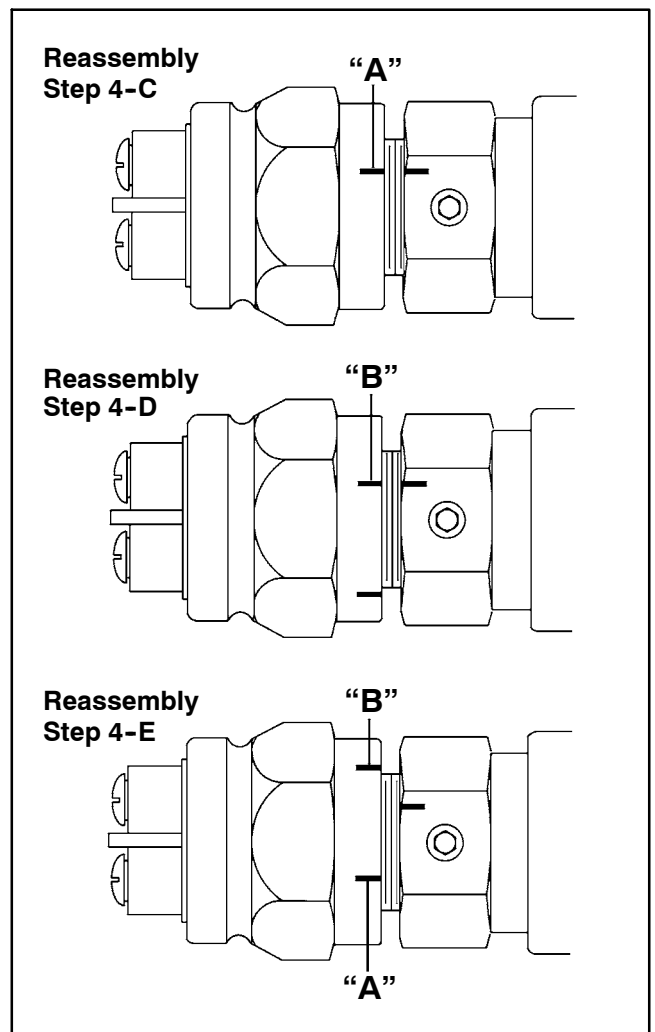

Figure 48
1. Install new o-ring (11) onto adapter and new o-ring (16) onto pin.
C. Move the link out of the detent position. The test light will go on. Screw in the switch until the light goes off. Mark this as position "A" (Fig. 48). Move the link to the detent position and the test light should come back on.
E. Unscrew the switch one third of the distance between "B" and "A". Install and tighten the set screw (17) in one of the upper quadrants of the hex of the switch adapter (Fig. 48). Torque set screw from 28 to 34 in-lb (3.2 to 3.8 N-m).